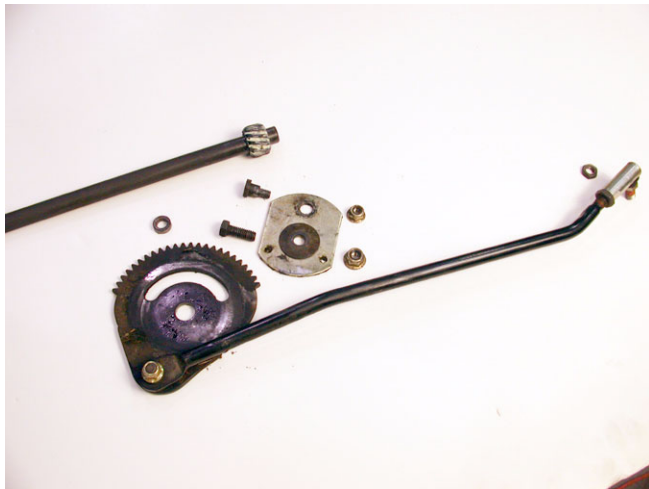

Figure 61
- 15.11. Inspect all components for wear or damage. See Figure 61.